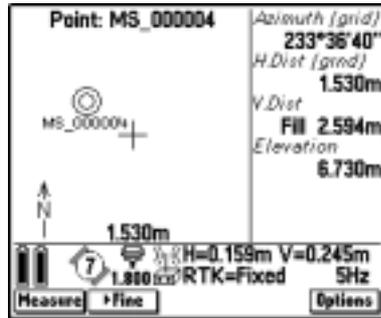

Figure 17.3 Graphical display showing bull's-eye and cross symbols
2. About three meters (or ten feet) from the point, the arrow disappears and the point is shown as a bull's-eye symbol. Your current position is shown as a cross, as shown in Figure 17.3.